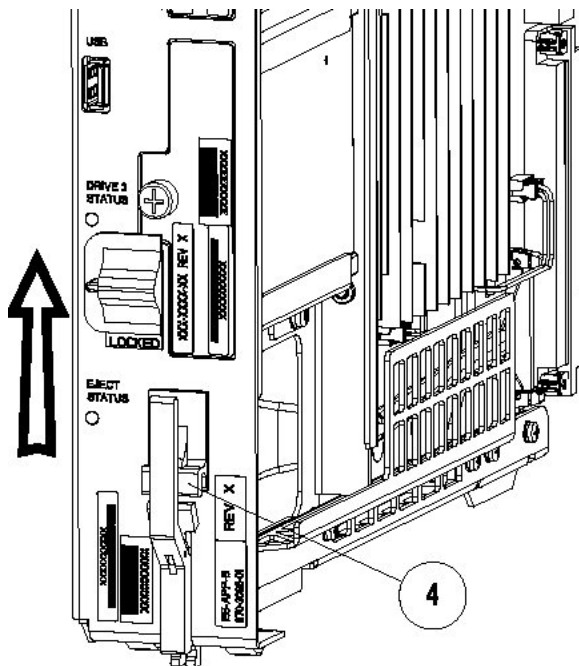

Figure 10: E5-APP-B Card Inject Hardware Switch, UNLOCKED
1. On the E5-APP-B card, slide the Eject switch (4) up to the UNLOCKED position. See Figure 10: E5-APP-B Card Inject Hardware Switch, UNLOCKED.